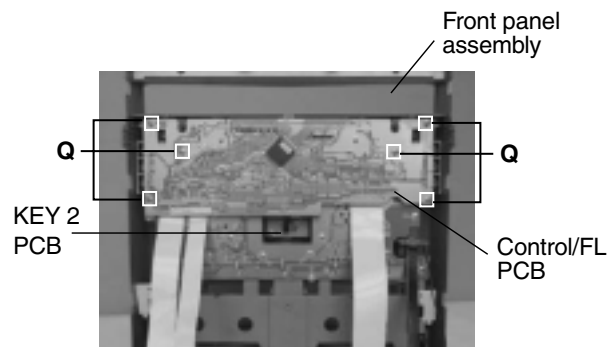

Fig.21
■ Removing the control/FL PCB (See Fig.21)
2. Remove six screws **Q** retaining the front panel assembly.(Fig.21)
5. Remove two screws **S** retaining the sound mode and CD function (key 2) switch PCB.(Fig.21)